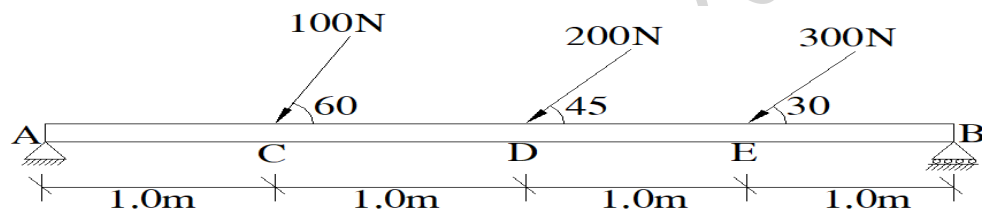

Figure 7
- c) A horizontal beam AB of length 4 m is hinged at A and supported on roller at B. The beam carries inclined loads as shown in figure 7. The inclination are in degrees. Draw the thrust diagram only. 04